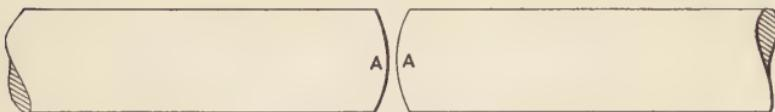

Fig. 48
**Butt Weld.**—The butt weld is the strongest weld for heavy, round stock, and is the easiest weld to make. The ends of the pieces to be welded should be slightly convex, as at *AA*, Fig. 48. This allows the centers to come together and also permits the slag to escape. The hammering done on the ends of the bar in making this weld supplies all the jumping up required; for if jumped up too much before welding the centers are liable to be drawn apart when drawing the piece down to size.